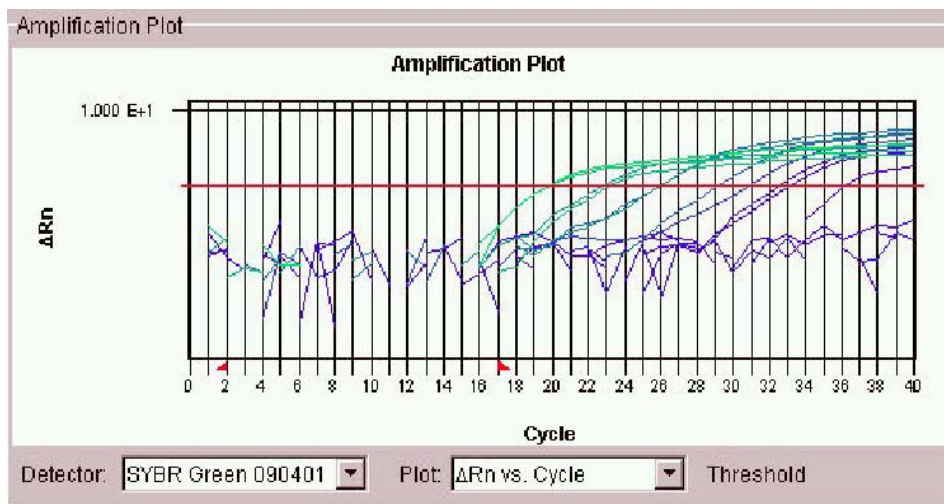

Figure 2 Amplification Plot
- An amplification plot of the Control Template Dilutions (10^6 to 10^1 target cDNA per reaction) and No Target Control is presented in Figure 2. No signal is observed for the No Target Control; therefore, all C_t values for target dilutions are significant.